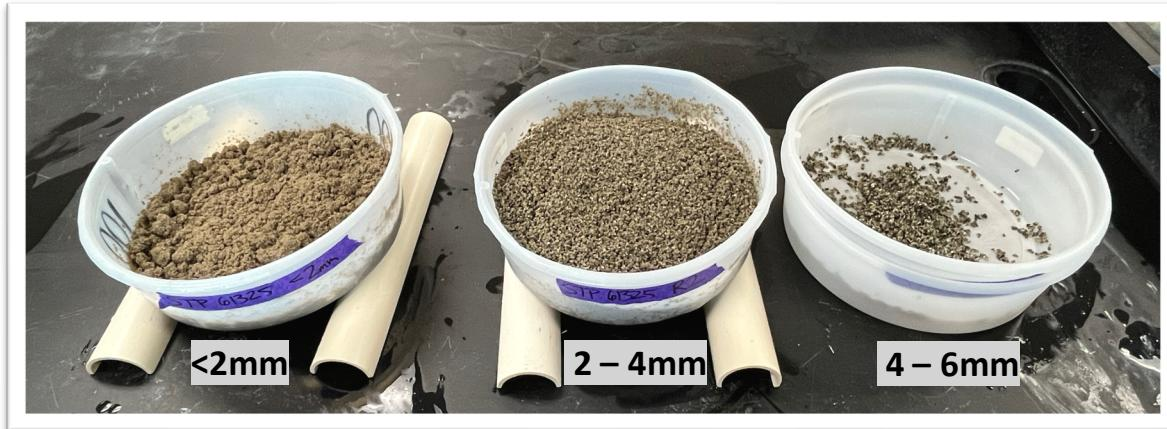

Figure 3.1. Three size classes of oyster seed sorted into individual sieves.
1. After installing the software and 3D-printing your hardware devices, clean and size grade your seed. Make sure that seed is collected into individual sieves by size class and genetic or ploidy group (Figure 3.1). Shake out excess water and allow sieves to drain for 15 – 20 minutes.